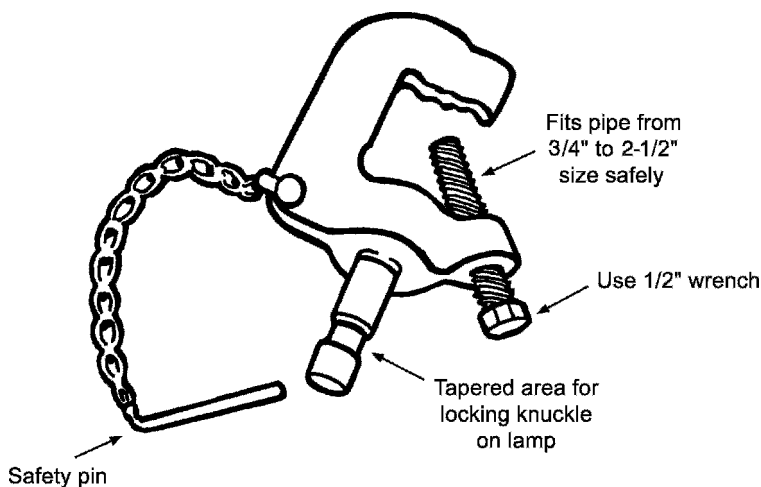

Figure 2.49 Baby pipe clamp.
1. Pipe clamp babies (Figure 2.49) are designed and strengthened to allow fixtures to hang on a pipe without the danger of slipping off the pipe while the clamp is loose.